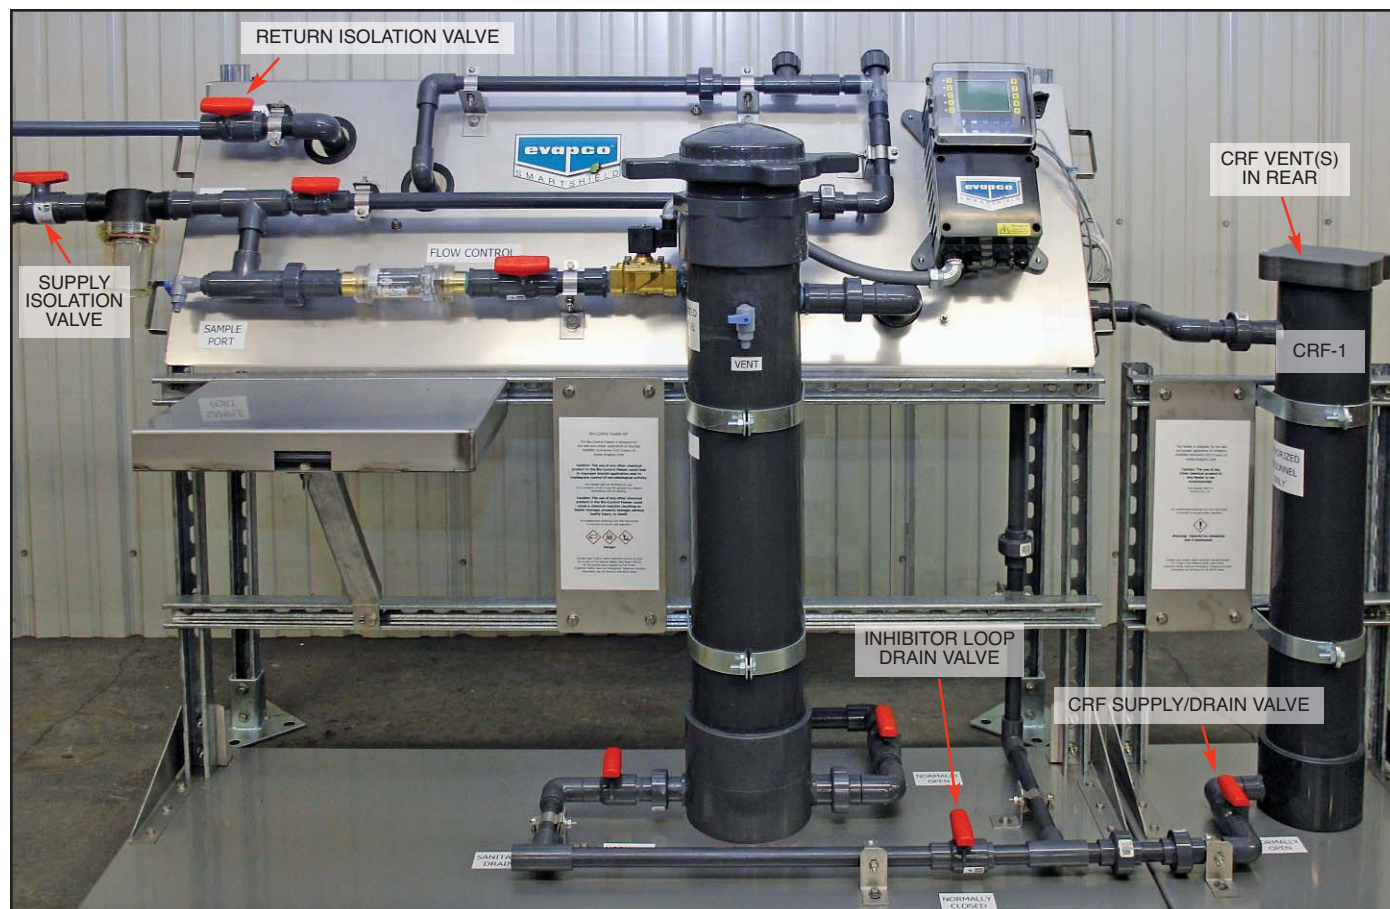

Figure 20 – Loading the CRF
- 6.3.1 Prior to loading the feeder(s), close the Supply and Return Isolation Valves. See Figure 20.